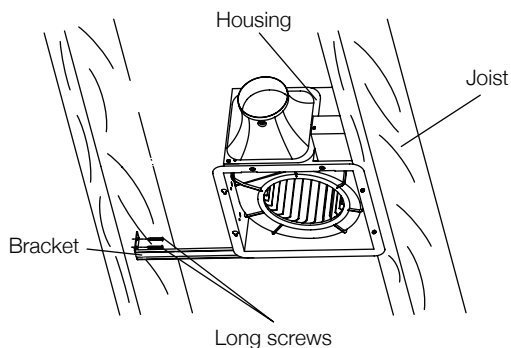
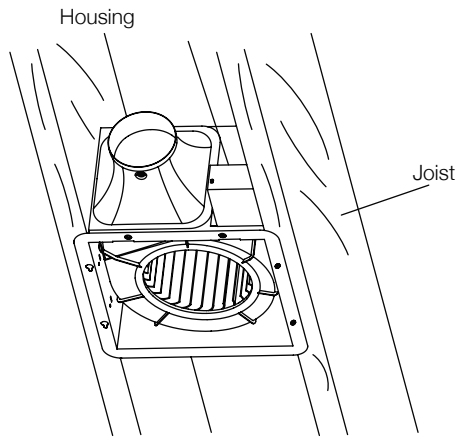

Figure 2-1
Figure 2-2
2. Mount the fan housing to joist using the support brackets and long wood screws (Fig. 2-1 or Fig. 2-2 and 2-3).